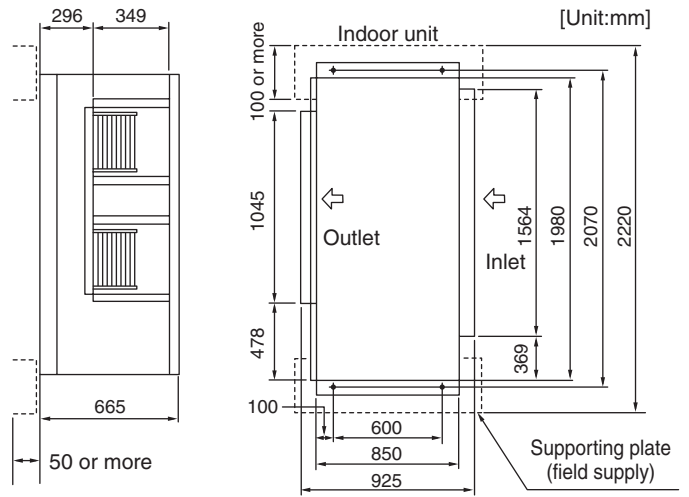

Fig.4
- Relation of positions between the ceiling opening and the suspension bolt of the indoor unit. (Refer to Fig.4)